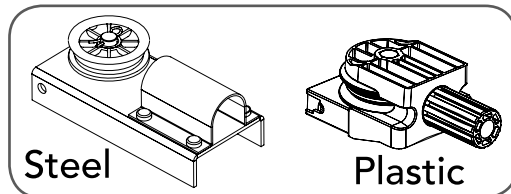

fig 02
- At the door end of the finished rail, attach the pipe support assembly (**Fig. 02**). If a STEEL version, slide the the rail into the slot. If a PLASTIC version, slide the pipe support assembly's end into the tube rail.